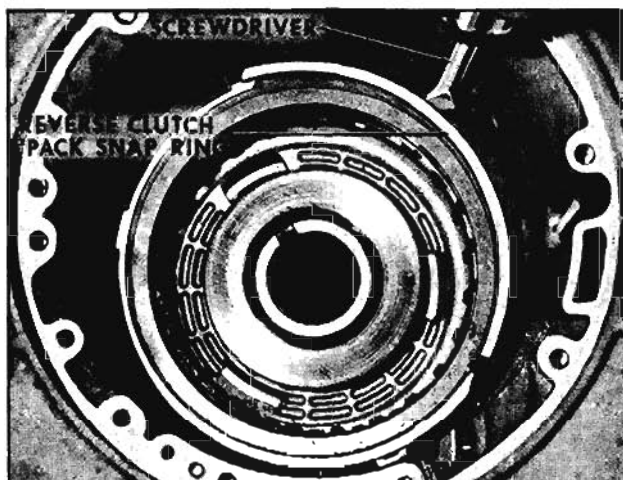

Fig. 6-290 Removing Reverse Clutch Snap Ring
1. Place transmission in vertical position and remove reverse clutch pack snap ring with screwdriver. (Fig. 6-290)